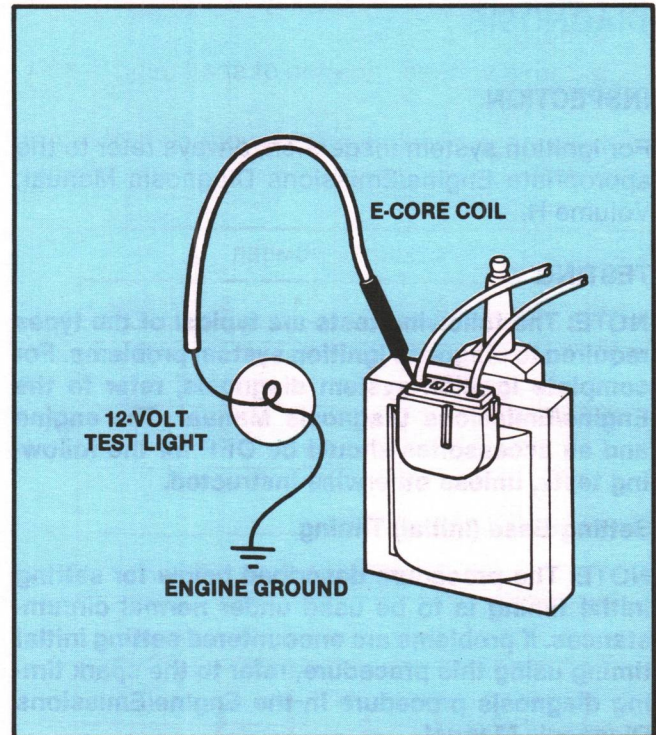

Figure 31. Ignition Coil Firing Check
2. Attach a 12V DC test light between the coil tach terminal and engine ground (Fig. 31).